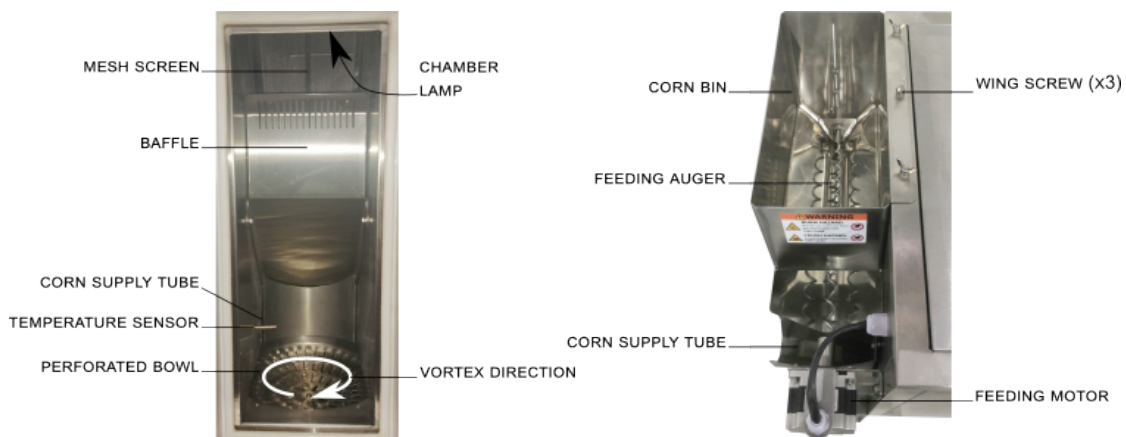

Figure 2: Chamber and corn bin
Popcorn kernels is loaded in the **corn bin with feeder**, see Fig. 2. The feeder consists of **feeding motor** and **feeding auger** inside the **corn bin**. The motor drives the auger, which pushes corn in the chamber through **corn supply tube**. Three **wing screws** allow quick detaching corn bin for cleaning purposes. From the corn bin, corn kernels goes through the **corn supply tube** to **working chamber**, see Fig. 2.
- Hot air comes out from the corn supply tube (see Fig. 2) during machine operation. **STAY CLEAR.**